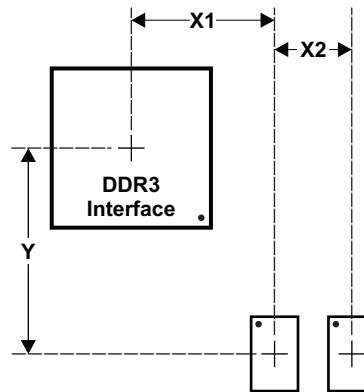

Figure 7-50. Placement Specifications
Figure 7-50 shows the required placement for the AM335x device as well as the DDR3 devices. The dimensions for this figure are defined in Table 7-63. The placement does not restrict the side of the PCB on which the devices are mounted. The ultimate purpose of the placement is to limit the maximum trace lengths and allow for proper routing space.
(1) DDR3 keepout region to encompass entire DDR3 routing area.
(2) For dimension definitions, see Figure 7-50.
(3) Measurements from center of the AM335x device to center of the DDR3 device.
(4) Minimizing X1 and Y improves timing margins.
(5) w is defined as the signal trace width.
(6) Non-DDR3 signals allowed within DDR3 keepout region provided they are separated from DDR3 routing layers by a ground plane.